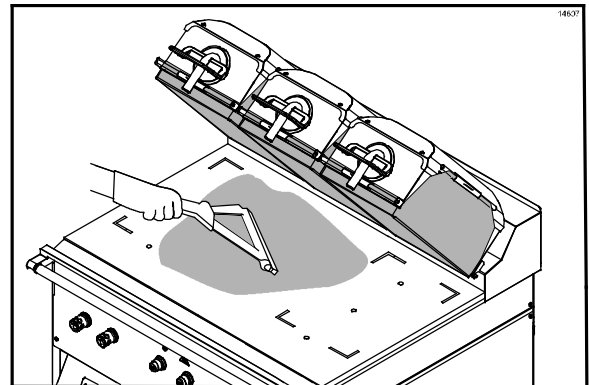

Figure 15
6. Using a clean squeegee, spread the flakes on the cooking zone. (See Figure 15.)